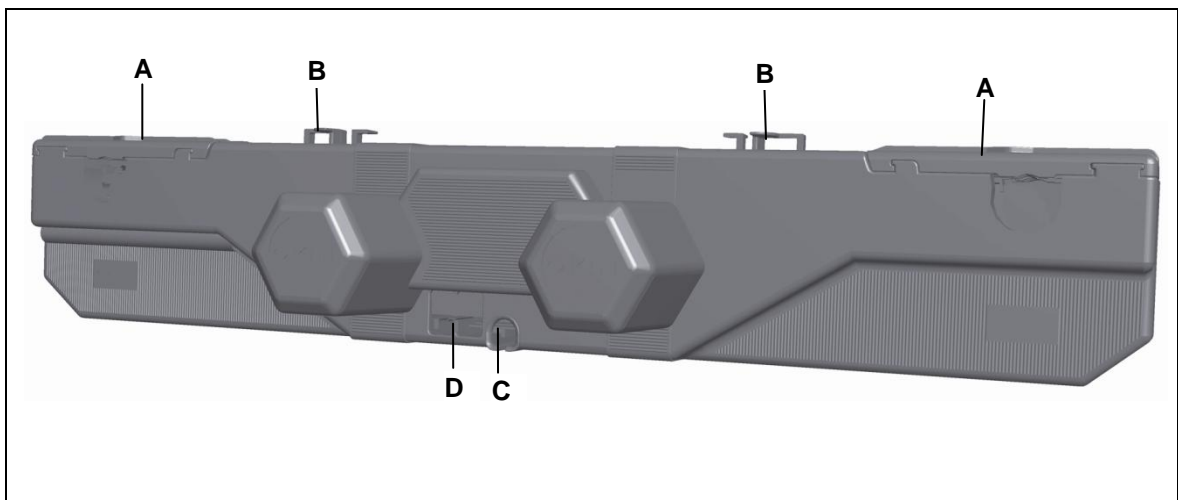

Figure 2 Main components of the OKIMAT 2 / OKIMAT 3 double drives
- 2 Pull strongly on the shutters to the side (A). The slots (B) for the brackets (D) are uncovered.
- 3 Align the OKIMAT 2 / OKIMAT 3 next to your product. The slots for the head and foot sides must be properly aligned with the correct brackets on your product (refer to the symbols on the OKIMAT 2 / OKIMAT 3 as described in Figure 2).
- 4 Push the drive in so that the brackets (D) fit into the slots (B). Press in until the tubes snap into the brackets.
- 5 Close the shutters (A) on the drive by snapping them back in. The OKIMAT 2 / OKIMAT 3 is now securely attached to the end product.